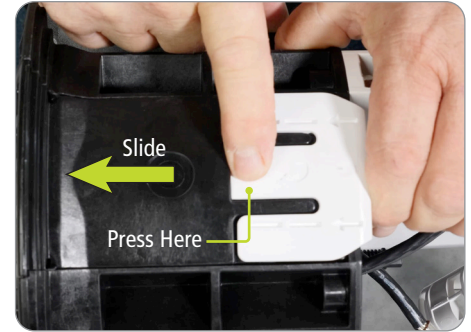

Figure 7
1. Depress sealing wedge latch and slide wedge cover toward the base. (Figure 7)